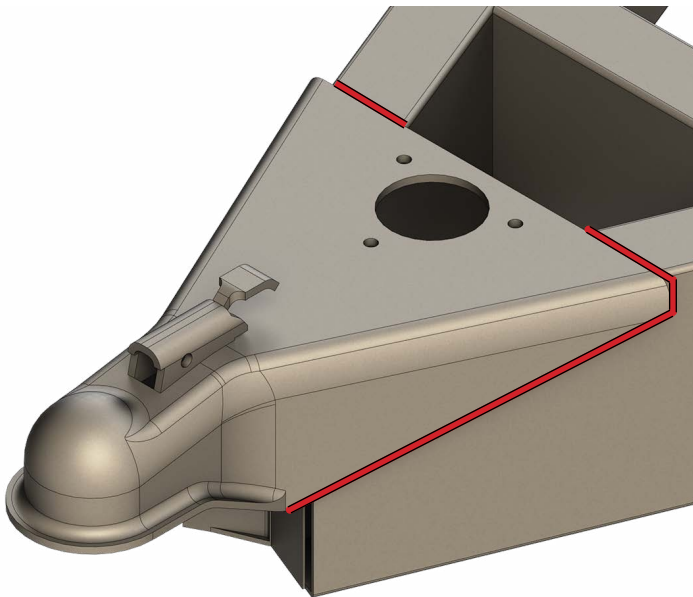

Fig.4
3. Weld the coupler (**Fig.3A**) back onto the A-frame (**Fig.4**).